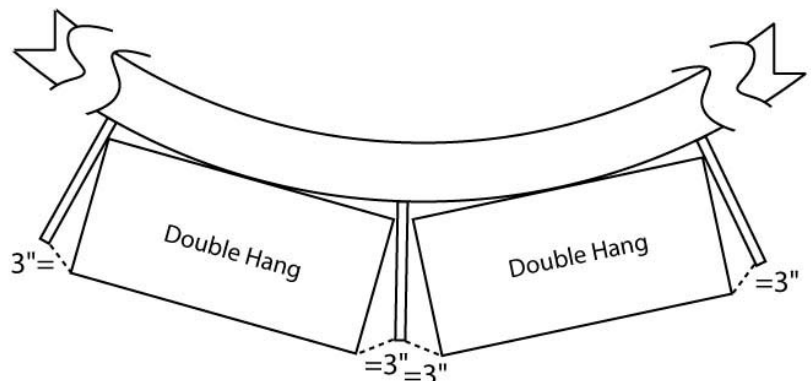

Fig. 5
3. Place a partition between two shelves exactly equidistant from the two front ends. Measure the distance between each shelf end and the partition side and adjust its position if necessary (Fig 5).
Repeat steps 3 – 5 for each partition on the curved wall. For end partitions, position the partition angle at the same distance from the shelf end as the measurement on the opposite shelf end to partition (Fig. 5).